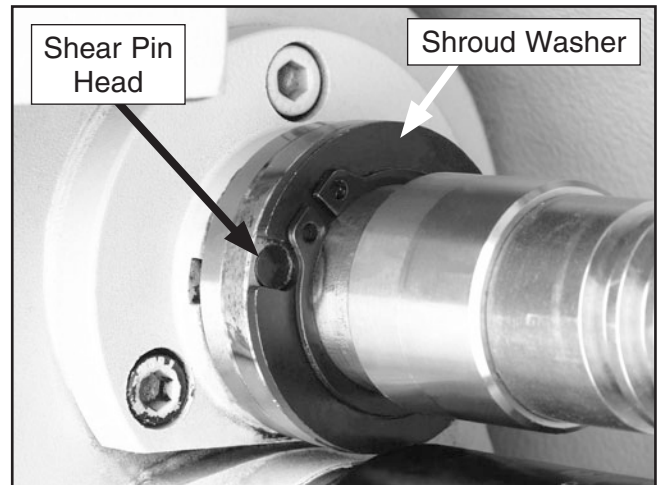

Figure 127. Shroud washer/pin alignment.
3. Rotate the shroud washer so the cutout lines up with the shear pin head (**Figure 127**).